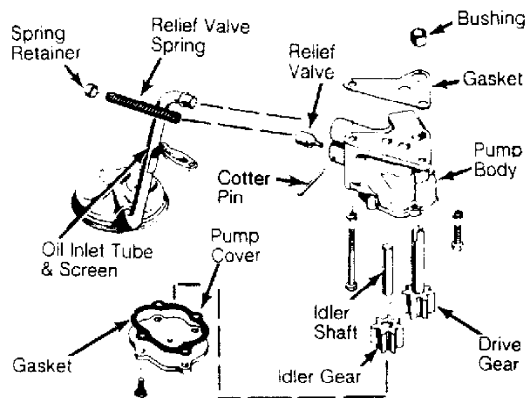

Fig. 8: Exploded View of Oil Pump Assembly
1) Disassemble pump. See Fig. 8. Use feeler gauge and straightedge to check gear end clearance. Place straightedge across gears and pump body. Using feeler gauge, determine thickness feeler gauge which fits snugly between straightedge and gears.